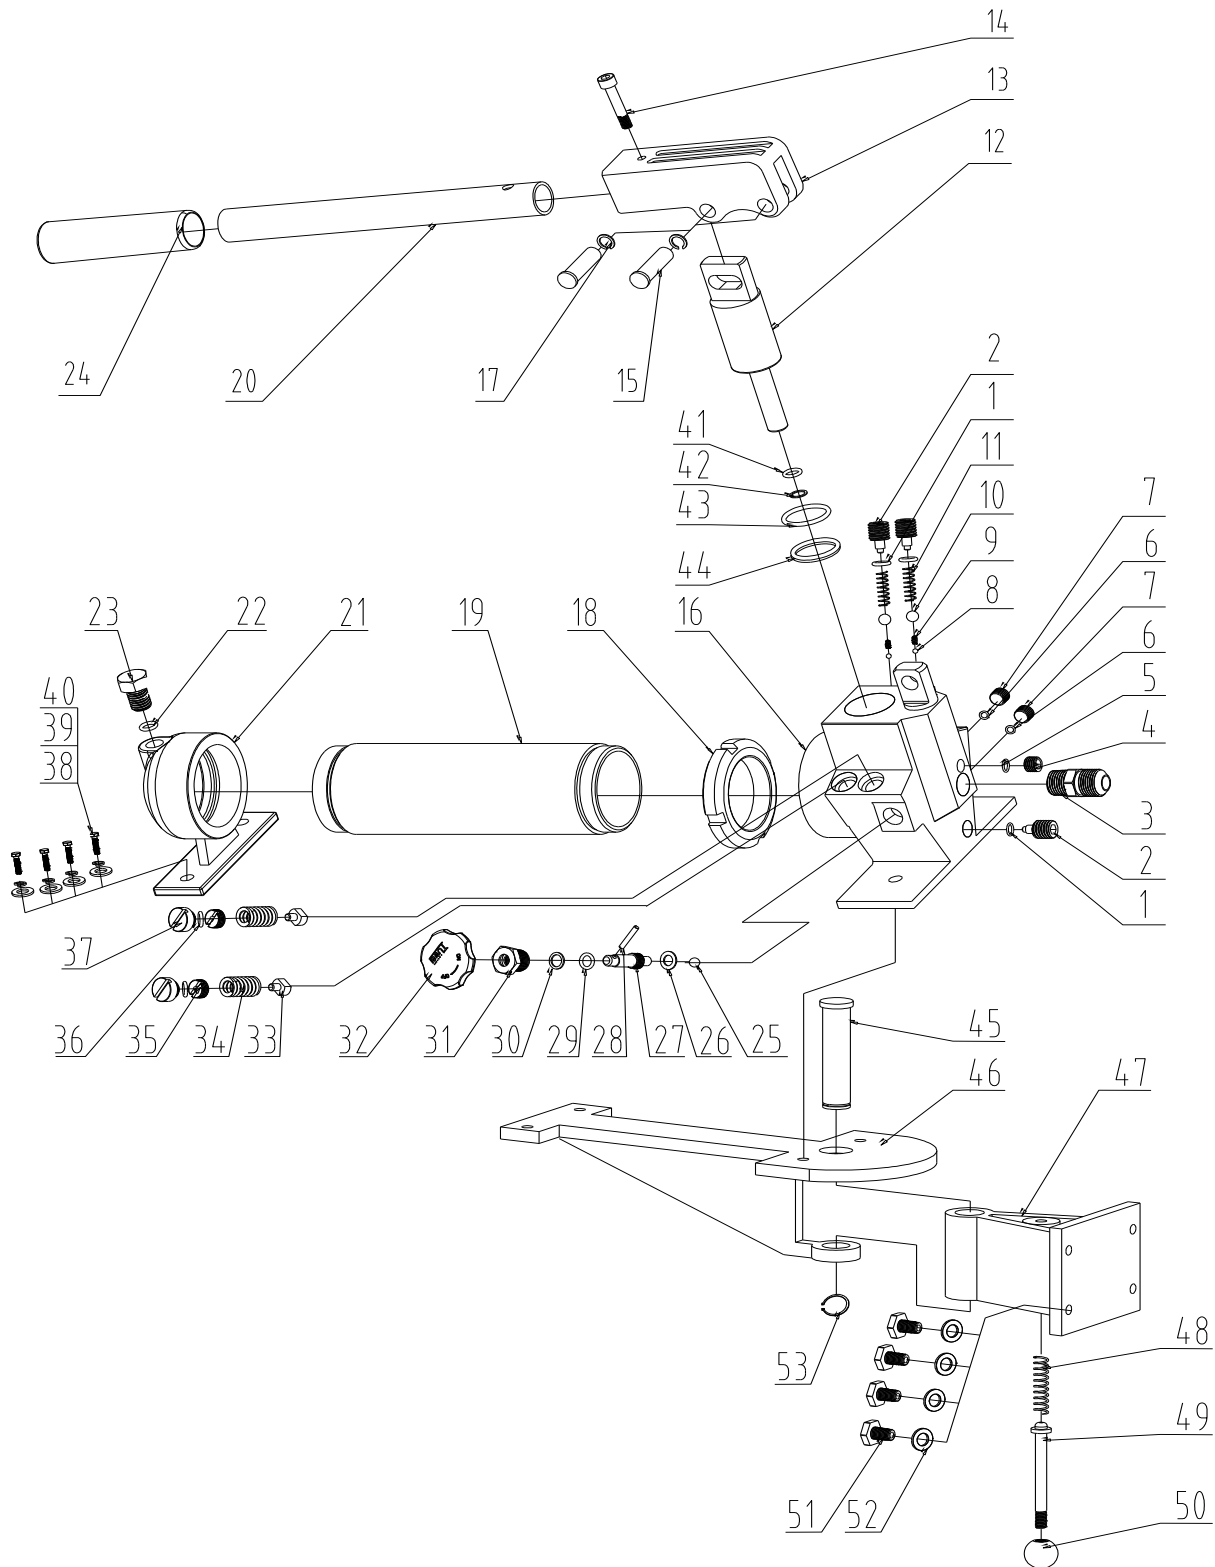

Figure 14
3. Oil pump assembly (Figure 14) parts list